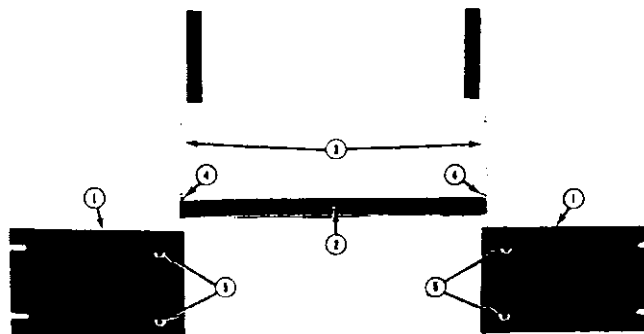

FIGURE 12. Model 1653 Single Rack Mounting Kit.
4-4. MODEL 1653 RACK MOUNTING KIT. The Model 1653 pictured in Figure 12 is a single rack mounting kit which converts the Model 165 from bench mounting to standard 3-1/2 inch x 19 inch rack mounting, with 15 inches (300 mm) depth behind the front panel.
b. Installation. Rack Mounting Panels and Side Brackets used in the 1653 are interchangeable. Using the four #10-32 screws provided, mount one Rack Mounting Panel to each Side Bracket as shown in Figure 12. Using the two #6-32 screws provided, mount the Bottom Cover Bracket between the two Side Brackets. Place the Model 165 inside the assembled rack kit, spreading the Side Brackets to fit around the instrument. The curved and cushioned back end of each Side Bracket fits around and into the rear-panel edges of the 165. The